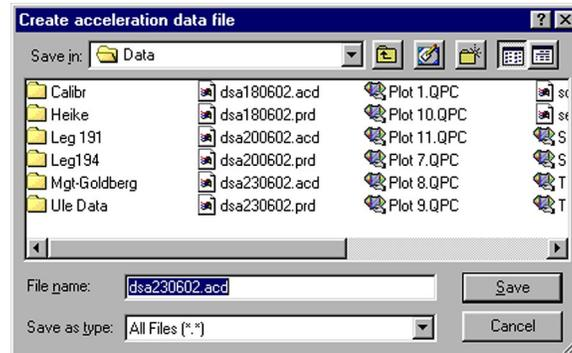

Figure 13. Creating an acceleration data file.
- D. The program will display additional data panes with diagnostic, timing and operational data read from the MM, and will then prompt you for acceleration and pressure data file names (Figures 13 and 14). Although you can change the file name in the dialog we do not recommend doing so unless you have to make several records with the same date. If you do change the file names, make sure you still use the proper file extensions: “.acd” for acceleration data files and “.psd” for pressure data files.